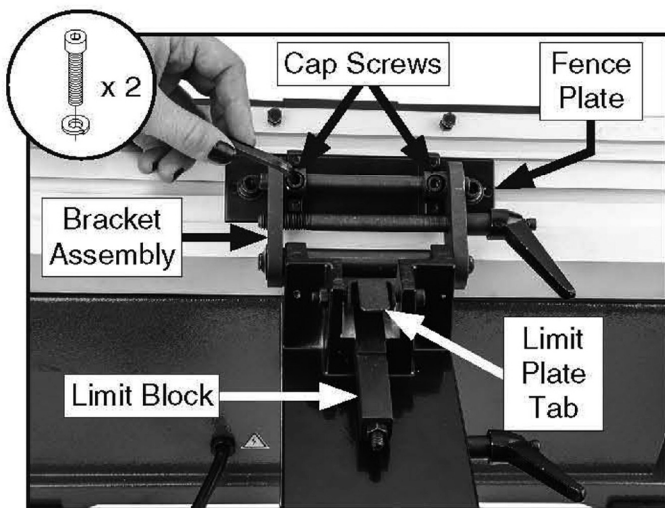

Figure 14. Attaching fence to fence bracket assembly.
4. Press down on limit plate tab on fence assembly, and insert limit block with notched side facing upward (see **Figure 14**).
5. Use (2) M6-1 x 20 cap screws and (2) 6mm lock washers to attach fence to fence bracket assembly (see **Figure 14**).